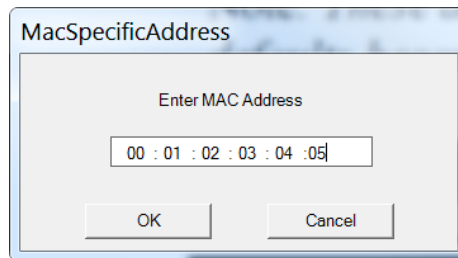

Figure 24. Enter Mac Specific Address dialog box.
- STEP 3.** Verify all the data to be included and select a current keyset to encrypt the file. Then, click the **Continue** button. If a MAC specific key is used to encrypt the file the following dialog box will be displayed. See Figure 24.